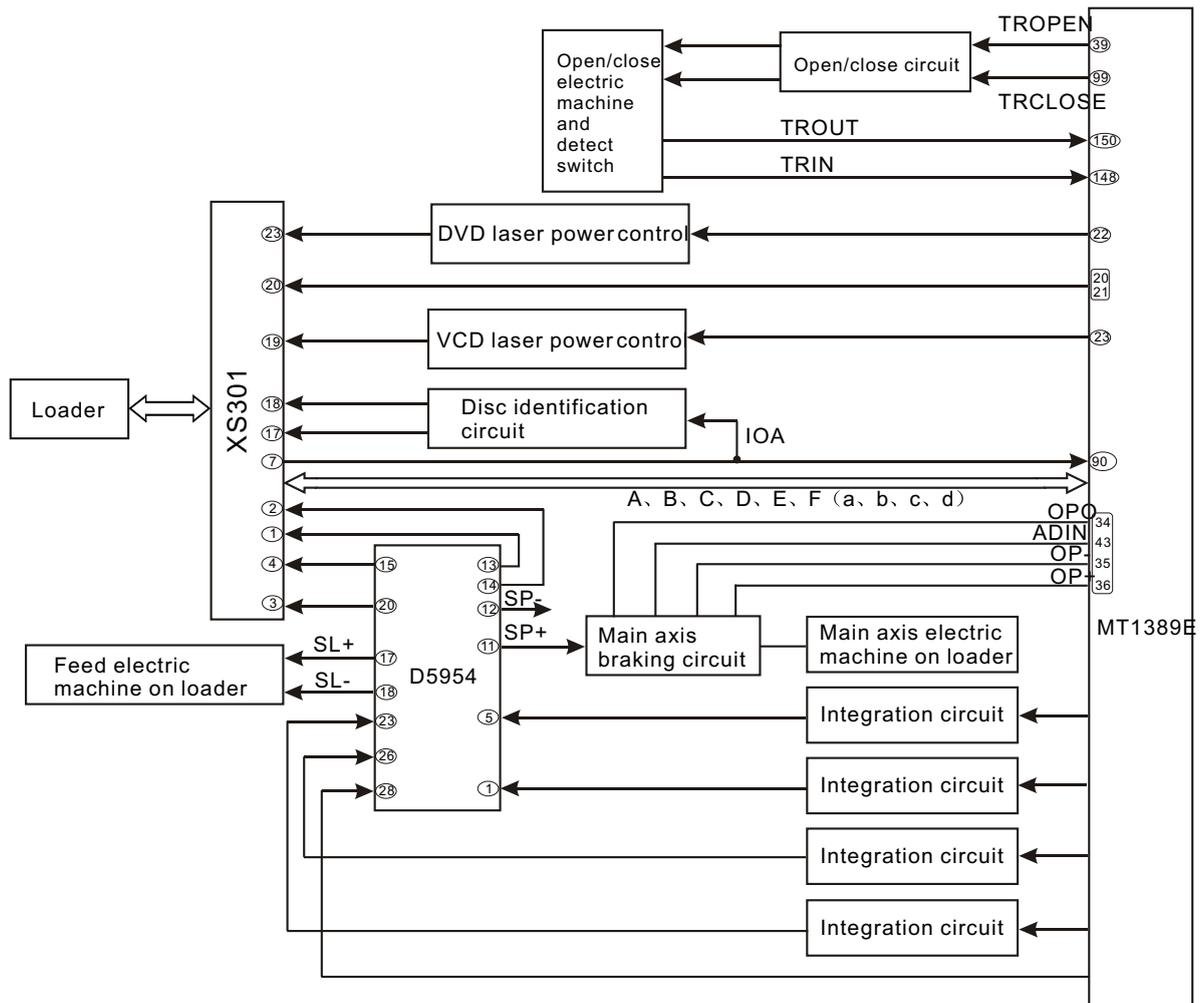

Figure 3.2.2.1 Servo circuit block diagram
1. DK1110SI adopts SANYO HD62 loader and MTK decode solution (MT1389E+FLASH (16M)+SDRAM (64M)). Its servo circuit is mainly composed of front signal processing and digital servo processing, digital signal processing IC MT1389E and drive circuit D5954, in which MT1389E is also the main part of decode circuit, shown in the figure 3.2.2.1: